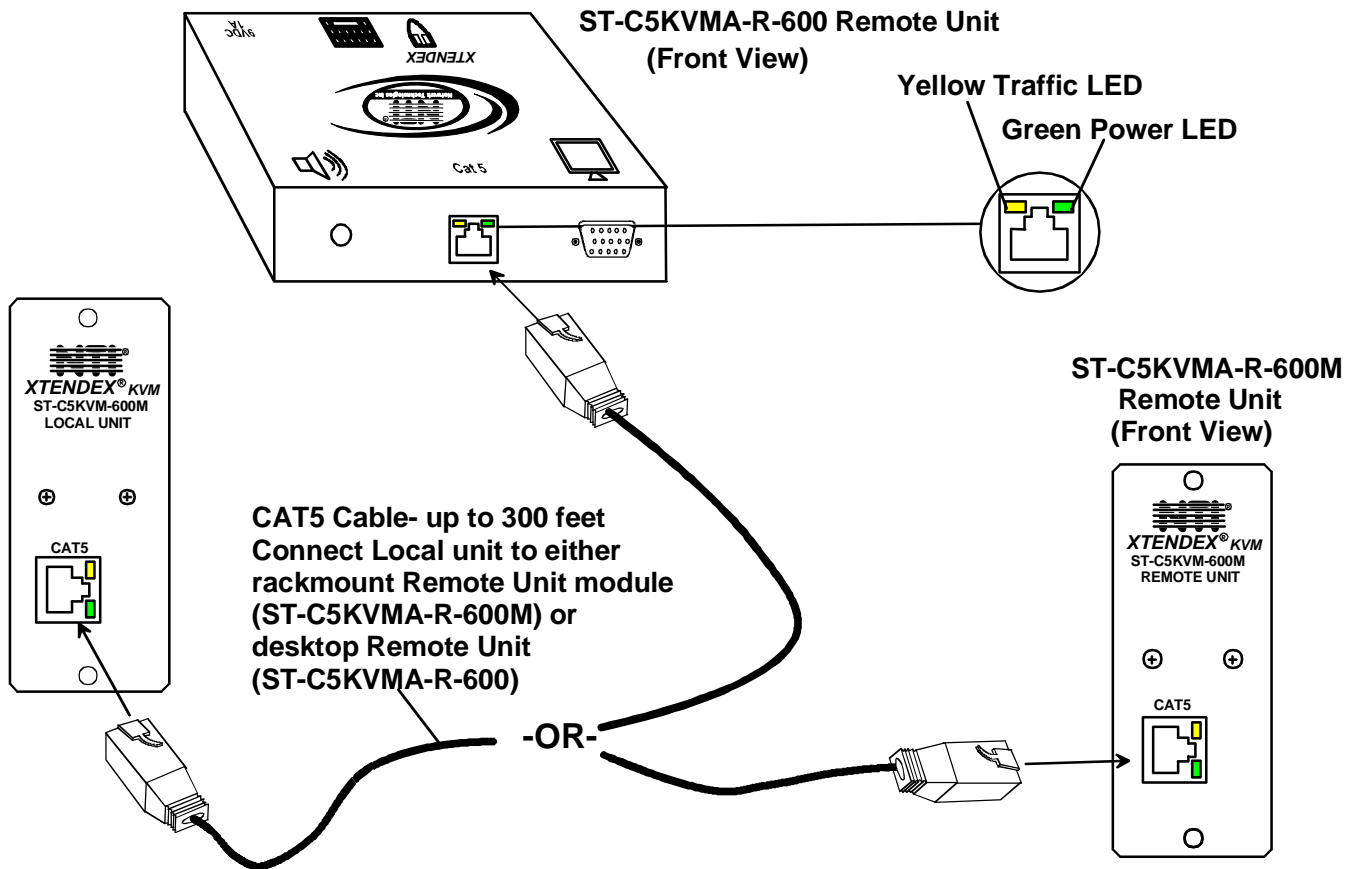

Figure 23- Connect the CATx cable between the Local and Remote Units
Connect the CATx cable to the “CAT5” port on the front of the Local Unit (see Figure 23). When properly inserted the cable end should snap into place. Connect the other end of the cable to the “CAT5” port on the Remote Unit.
4. Turn ON the CPU and monitor(s). The CPU and monitor(s) should each react as if they were directly connected to each other. The yellow "Traffic" LEDs on the Remote and Local Units (see Figure 23) should blink indicating there is proper communication between them.